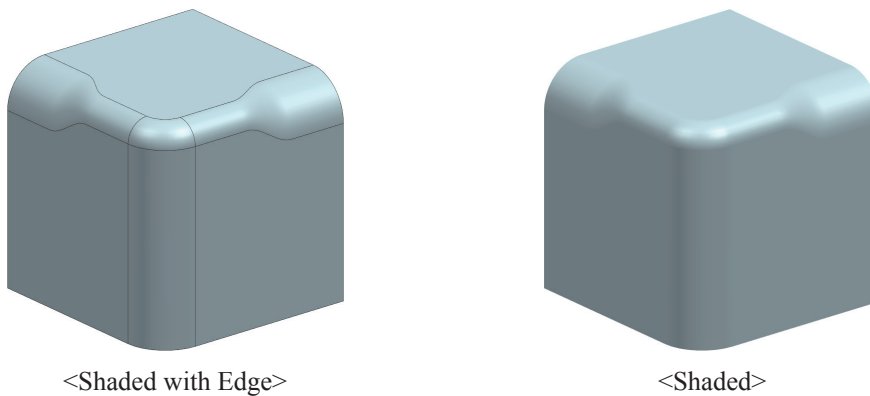

Fig 6-39 Variable Radius Edge Blend Created
13. Press **OK** in the dialog box. Various radius edge blends are created as shown in Fig 6-39. Close without saving the file.